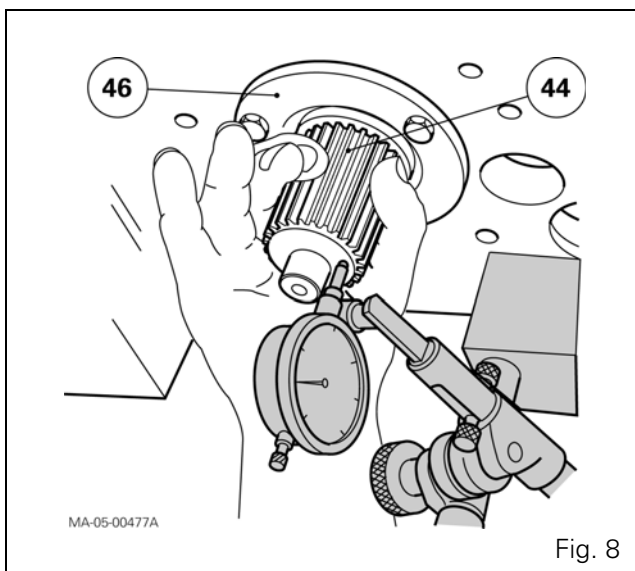
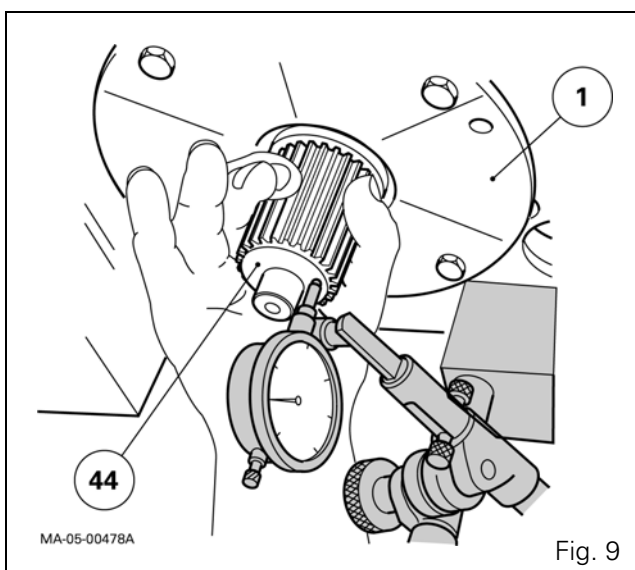

Fig. 8
Fig. 9
28. Fit the cup (48) and the stop plate (46). Tighten screws (41) to a torque of 25 - 35 Nm.
IMPORTANT: For gearboxes fitted with a creeper unit, use the unit plate (1) (Fig. 9) to replace the stop plate (46) (Fig. 8). Tighten the screws to a torque of 33.8 - 51.5 Nm.
29. Put the dial gauge feeler pin against the end of the shaft (44) (Fig. 8 or Fig. 9).
33. If the axial clearance is greater than 0.05 mm, set a definitive thickness of the circlip (49), to be fitted later during step 42, to obtain $J3 = -0.05 \text{ to } +0.05 \text{ mm}$.
34. Remove the circlip (45).
35. Remove the shim (43) and the shims (42).
36. Remove the screws (41) and the stop plate (46).
- the cup (48);
- the bearing cones (40) (39), pairing them with their cups;
42. Fit the circlip (49) defined during step 33. Slide the cones and cups paired during step 37 onto the shaft.
43. Fit the stop plate (46). Tighten screws (41) to a torque of 25 - 35 Nm.
44. Put the dial gauge feeler pin against the end of the shaft (44) (Fig. 8 or Fig. 9).